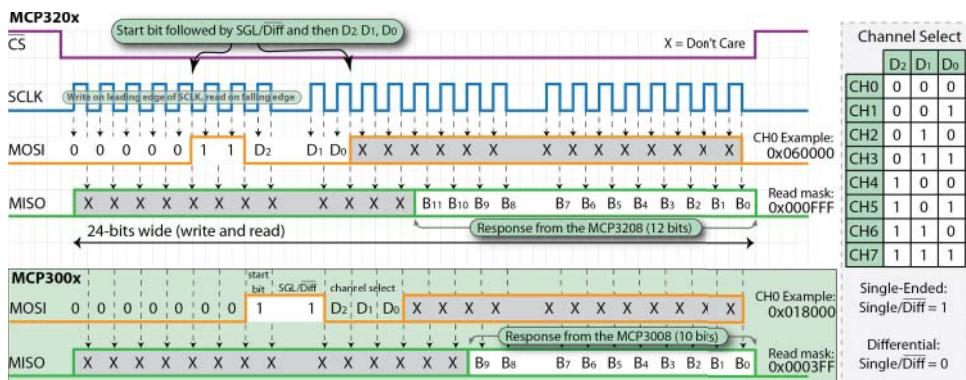

Figure 9-3: Reading data from the 12-bit MCP320x and the 10-bit MCP300x families of SPI ADCs
The channel is selected using a three-bit identifier ($2^3 = 8$), as illustrated on the right side of Figure 9-3.
The data transaction takes 24 serial clock (SCLK) cycles. The RPi writes low bits followed by a start bit (high), the SGL/Diff bit (high for a single-ended configuration), and the three channel-select bits. The write takes place on the rising edge of the clock signal. The MCP320x then sends 12 bits of data back to the RPi on the falling edge of the clock signal (delayed by 3.5 clock cycles). The signal patterns required for the MCP320x are also identified at the bottom of Figure 9-3. They are almost the same, but because 10 bits are returned rather than 12 bits, there are two fewer leading lows on the MOSI (D_{IN}) line.
This code in Listing 9-1 can be easily adapted to read from all eight of the channels by altering the three channel select bits, as described in Figure 9-3. For example, if the LDR circuit was connected to CH7 (111), then the send bytes would be `send[0]=0b00000111` and `send[1]=0b11000000` for the MCP3208.